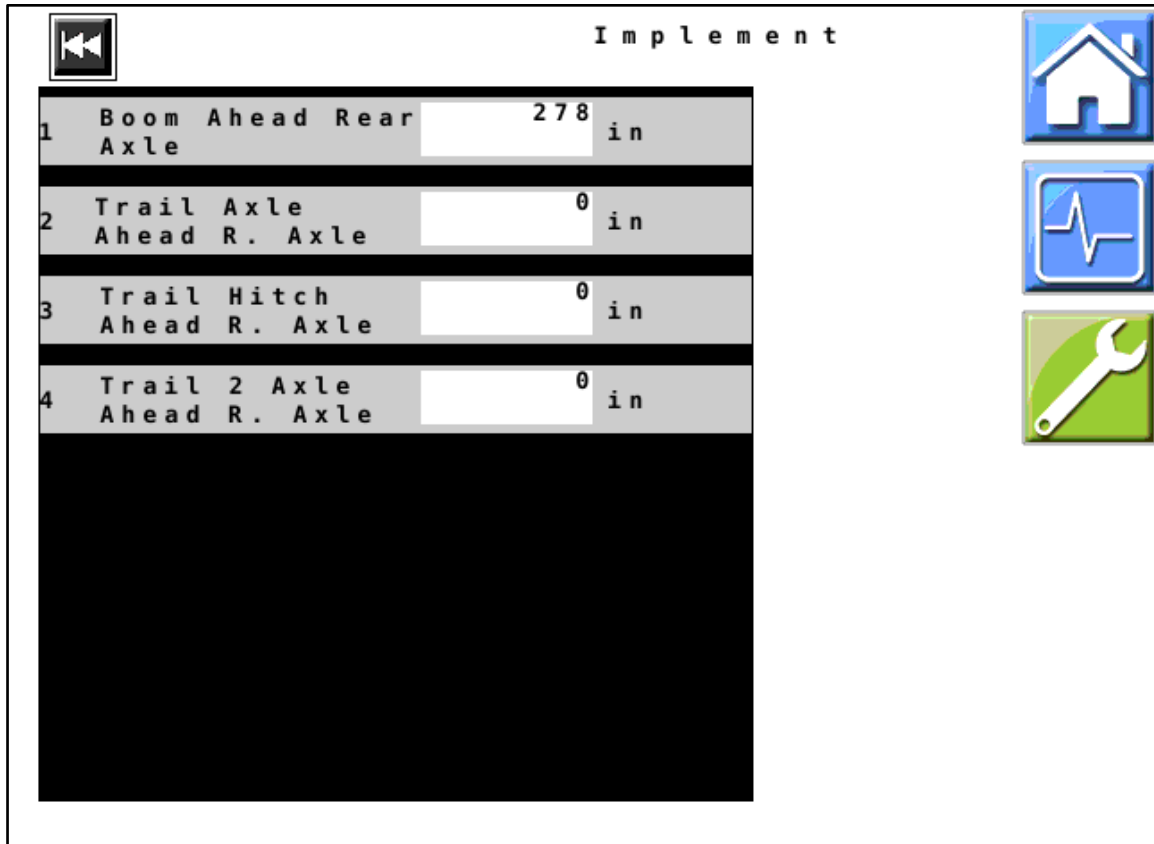

Figure 20 — Implement
35. *Figure 20*: Verify that all values displayed on your unit match those shown here. Change values if necessary.